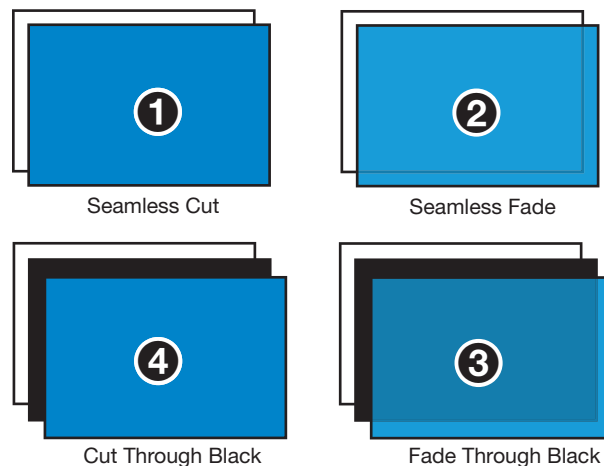

Figure 27. Transition Effects
- **Input** — Enables you to select the transition effect that is shown on the display while the scaler is switching inputs (see the examples in figure 27). Press the ▲ or ▼ button to select from the following available effects:
- **Seamless Fade** (default) — Displays a final frozen frame of the previous input while the newly selected input fades in (see figure 27, 2 on the previous page).